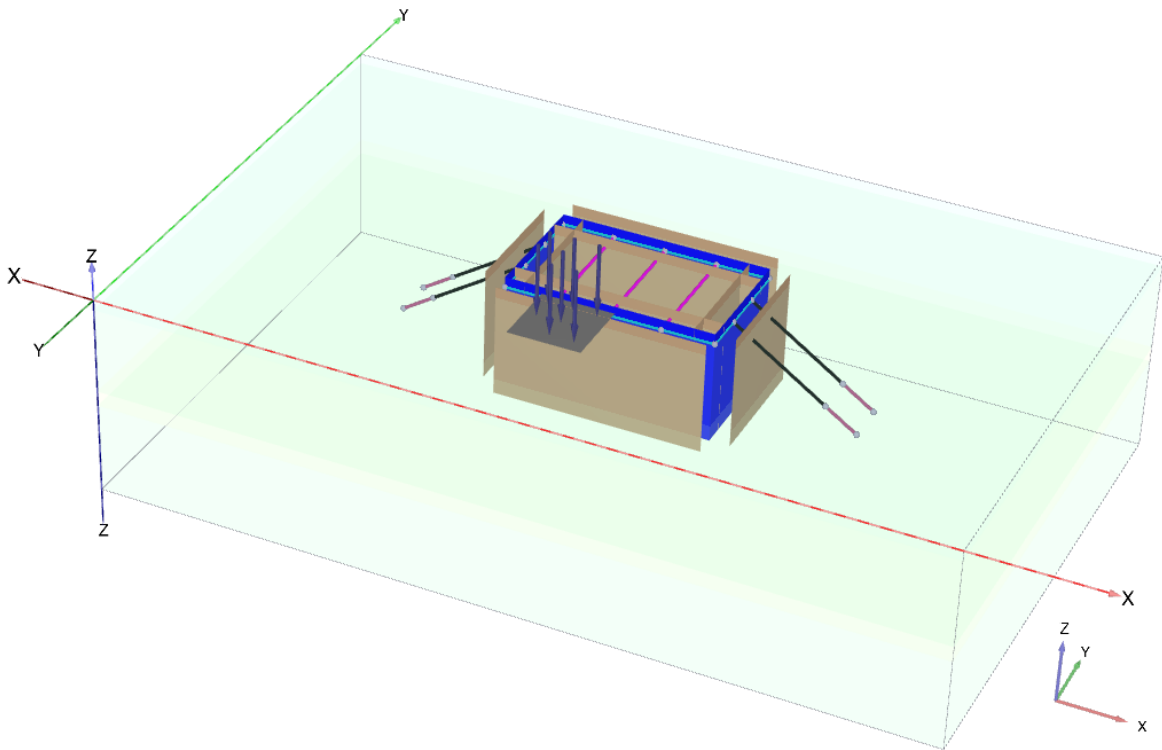

Figure 32: Structure mode - Complete project geometry
-  Create a surface load defined by the points: (34 19 0), (41 19 0), (41 12 0), (34 12 0). The geometry is now completely defined (see Figure 32 (on page 51)).